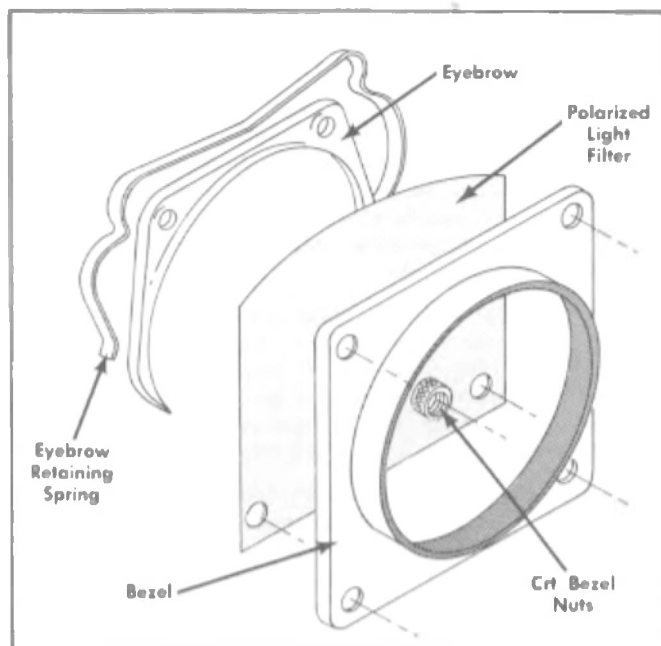

Fig. 4-2. Crt bezel and eyebrow arrangement.
1. Remove the crt bezel nuts, bezel, and plastic polarized light filter (see Fig. 4-2).
2. Remove plastic eyebrow and retaining spring from the top of the crt (see Fig. 4-2).